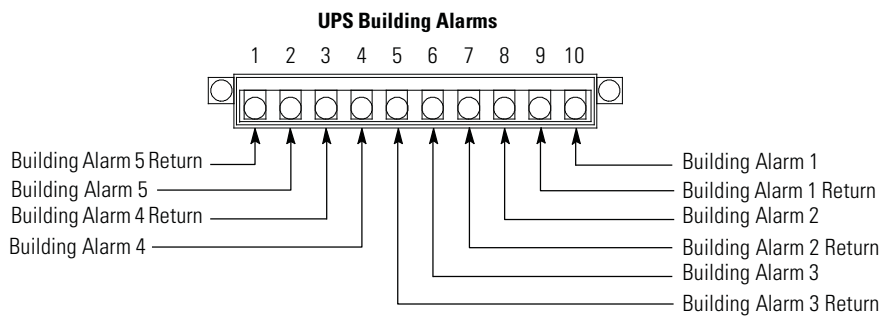

Figure 4-20. Building Alarm Terminal Block Connector Assignments
13. Connect the building alarm interface wiring to the building alarm terminals. See paragraph 3.2.4 and Table 4-1 for wiring and termination requirements, and Figure 4-20 for terminal assignments.
15. Connect the battery detect wiring to one pair of building alarm terminals. See paragraph 3.2.4 and Table 4-1 for wiring and termination requirements, and Figure 4-20 for terminal assignments.